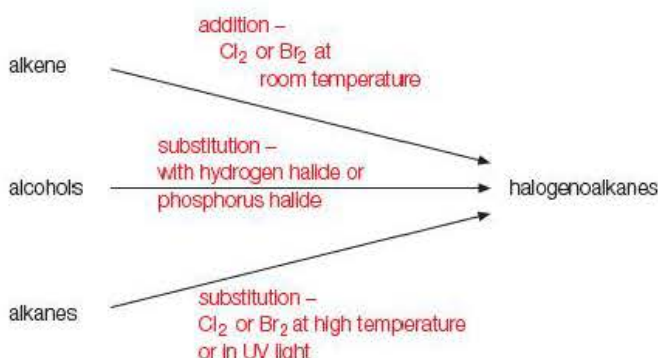

Figure 15.18 ◀
- 24 Write an equation to illustrate each of the three methods for making halogenoalkanes shown in Figure 15.18. Name the reactants and products, and state the conditions required for each reaction.